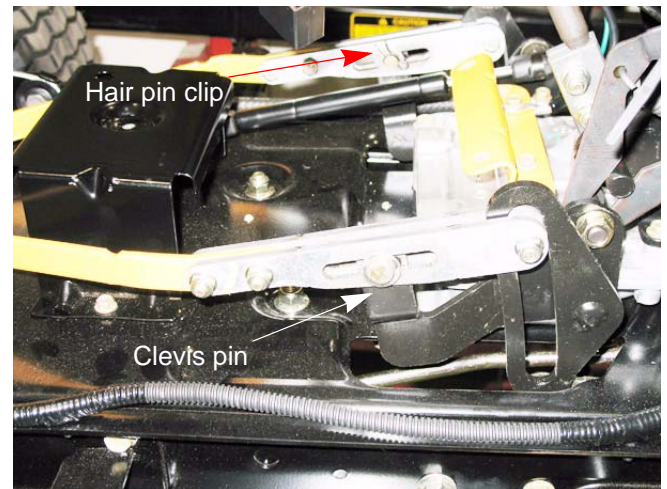

Figure 3.18
- 2a. Remove the cotter pins, washers and clevis pins in the linkages. See Figure 3.18.